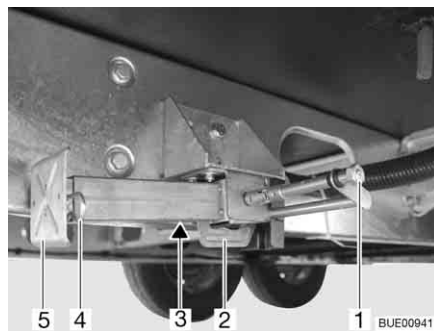

Fig. 32 Steady leg
- Place the socket spanner on the hexagonal nut (Fig. 32,1) and rotate until the steady leg is in a perpendicular downward position.
- If the length of the steady leg can be adjusted, remove the splint (Fig. 32,4) out of the support foot extension (Fig. 32,5).
- Place the socket spanner on the hexagon nut (Fig. 32,1) and rotate until the steady leg is clear of the ground.
- Push in the support foot extension (Fig. 32,5) and insert the splint (Fig. 32,4) in the drilled hole in the support foot extension.
- Rotate the hexagonal nut (Fig. 32,1) until the steady leg has swung upwards and the guide (Fig. 32,2) has reached the very end of the slot (Fig. 32,3).